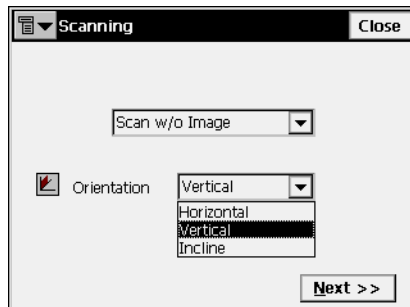

Figure 6-39. Scan without Image
*For Scanning without Image* (Figure 6-39).